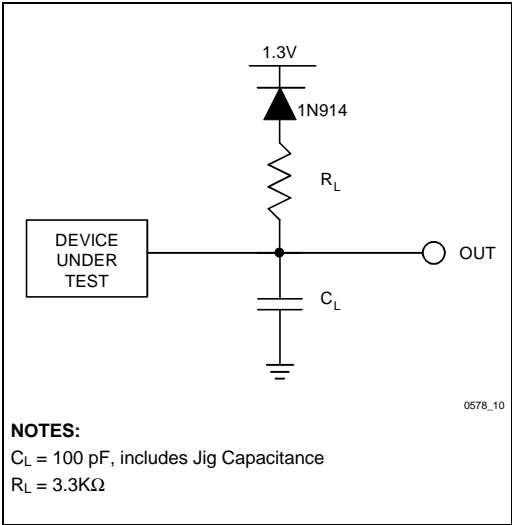

Figure 10. Standard Test Configuration
4. See Standard Test Configuration (Figure 10).